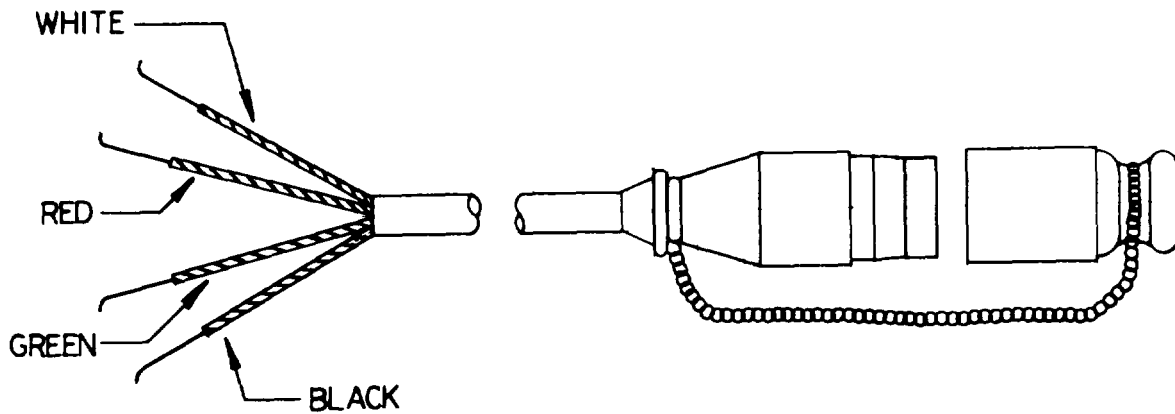

Figure 7. POWER CABLE ADAPTER ASSEMBLY, 230 VOLT.
- a. Power Cable Adapter Assembly. Cable. The power cable adapter is used to connect the hot oil heater to its source of electrical power, usually a generator set. Refer to Figure 7 and install as follows.